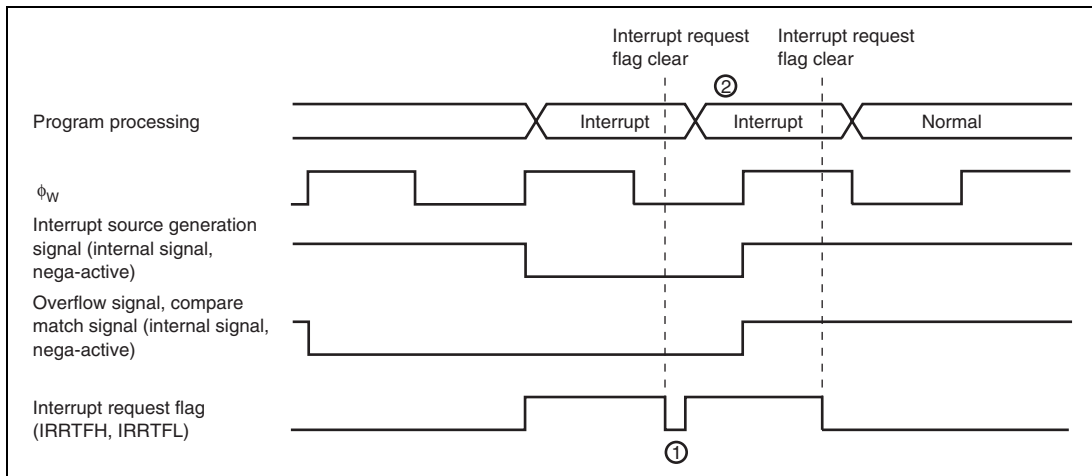

Figure 12.7 Clear Interrupt Request Flag when Interrupt Source Generation Signal is Valid
When $\phi_w/4$ is selected as the internal clock, "Interrupt source generation signal" will be operated with ϕ_w and the signal will be outputted with ϕ_w width. And, "Overflow signal" and "Compare match signal" are controlled with 2 cycles of ϕ_w signals. Those signals are output with 2-cycle width of ϕ_w (figure 12.7)
In active (high-speed, medium-speed) mode, even if you cleared interrupt request flag during the term of validity of "Interrupt source generation signal", same interrupt request flag is set. (1 in figure 12.7) And, the timer overflow flag and compare match flag cannot be cleared during the term of validity of "Overflow signal" and "Compare match signal".
For interrupt request flag is set right after interrupt request is cleared, interrupt process to one time timer FH, timer FL interrupt might be repeated. (2 in figure 12.7) Therefore, to definitely clear interrupt request flag in active (high-speed, medium-speed) mode, clear should be processed after the time that calculated with below (1) formula. And, to definitely clear timer overflow flag and compare match flag, clear should be processed after read timer control status register F (TCSRFB) after the time that calculated with below (1) formula.